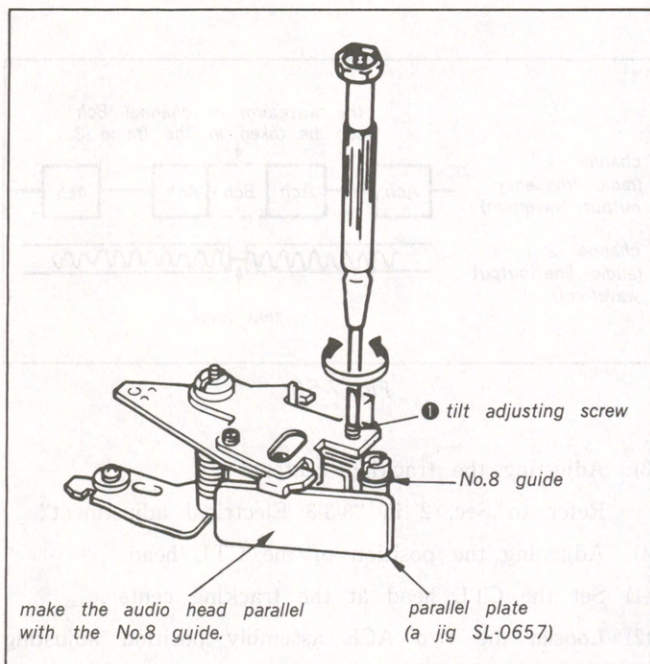

Fig. 7-51.
- 1) Set the parallel plate (SL-0657 in the table of tools and fixtures required for servicing) as shown in Fig. 7-51, and turn the tilt adjusting screw ❶ to adjust the audio head vertically.